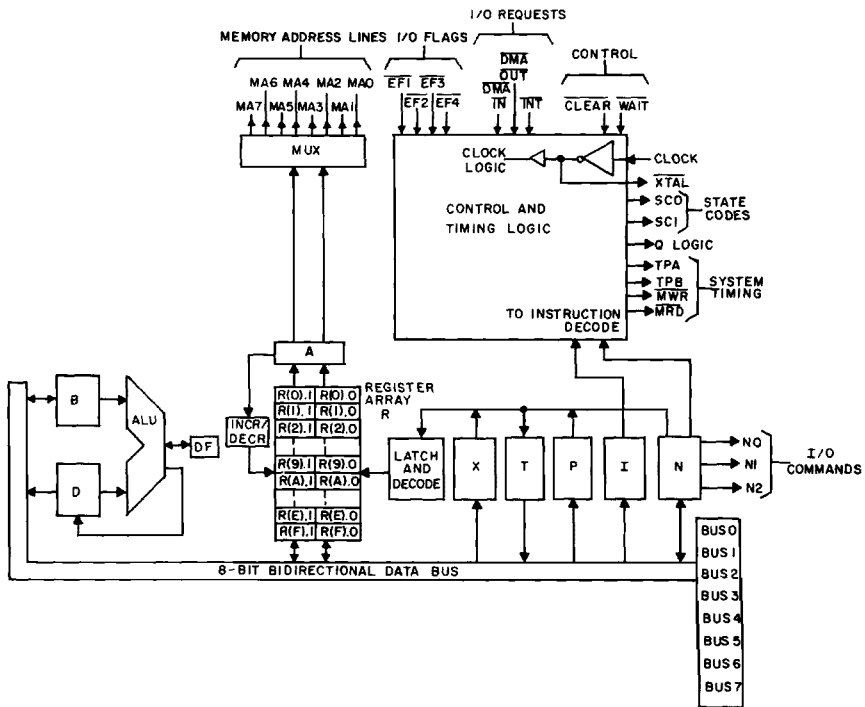

FIGURE 11. CDP1802A BLOCK DIAGRAM
The CPU block diagram is shown in Figure 11. The principal feature of this system is a register array (R) consisting of sixteen 16 bit scratchpad registers. Individual registers in the array (R) are designated (selected) by a 4 bit binary code from one of the 4 bit registers labeled N, P, and X. The contents of any register can be directed to any one of the following three paths: